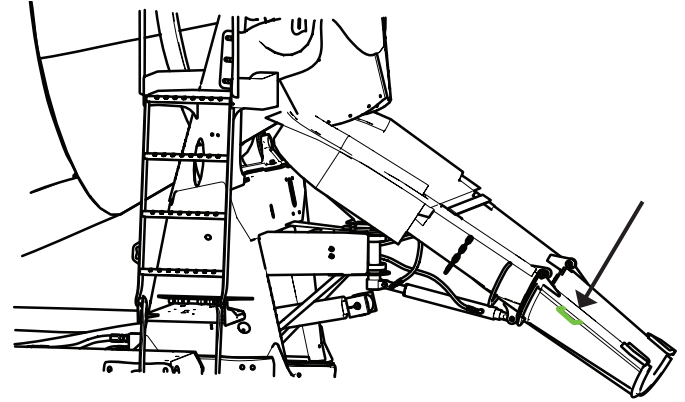

Figure 34
3. Slowly lower the chute into operation position (Figure 34).
1. Grip the fold-over chute using the correct hand-holds (Figure 34).